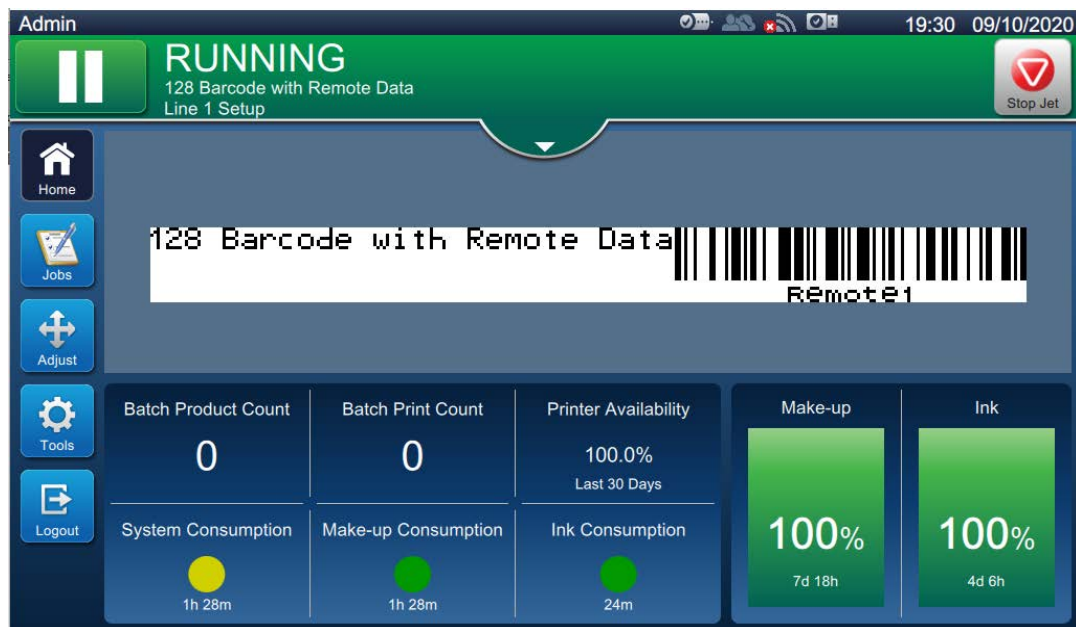

Figure 3-40: Home Screen - Job Preview
22. Touch the *Load Job* button to load the job for printing. The job appears on the screen as shown in Figure 3-40.